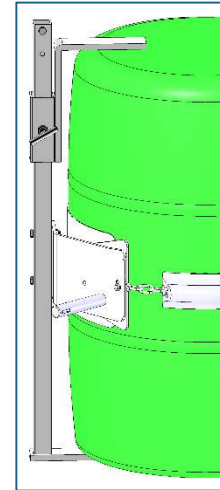

Figure 2.1
- 1. Stainless Steel Bracket Assembly Kit 4556SS-P** is **required** to handle a RIMLESS plastic drum (figure 2.1), and is also recommended for a fiber drum. The Bracket adjusts for a 31" to 39" (79 to 99 cm) tall drum. You can also handle a rimmed drum with the Bracket installed.